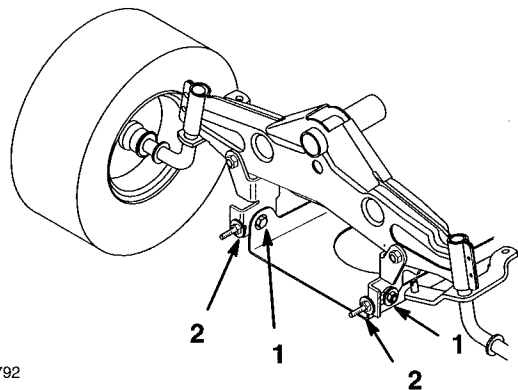

Figure 52
5. To adjust front-to-rear blade slope loosen front pivot plate mounting bolts slightly (Fig. 52).
6. Rotate lock nuts on eyebolts to change adjustment (Fig. 52). To raise the front of the mower tighten the eyebolt lock nuts. To lower the front of the mower loosen the eyebolt lock nuts.
7. After adjusting both eyebolt lock nuts evenly, check the front-to-rear slope again. Continue adjusting eyebolts until the front blade tip is 0-3/8" (0-9.2 mm) lower than the rear blade tip (Fig. 52).
8. When front-to-rear slope is correct, tighten the pivot plate mounting bolts (Fig. 52).